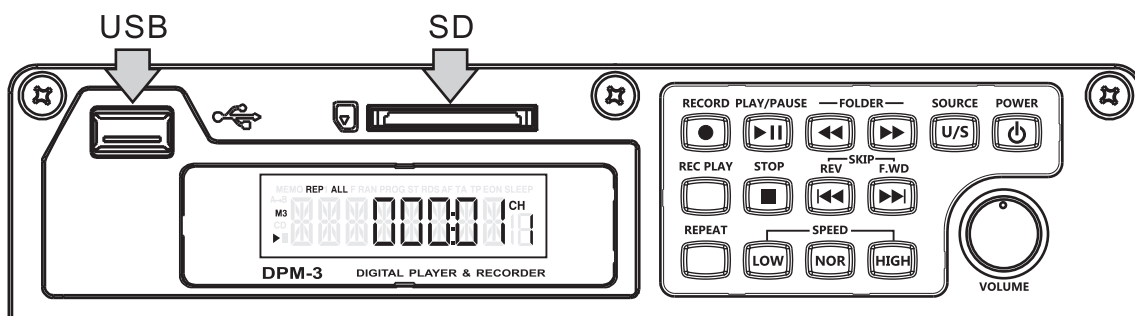

Fig. 16
### (A) Media Slots, Fig. 16:
- (1) USB Disk: Insert USB 2.0 into the USB port for playing MP3 / WMA / FLAC / APE / WAV / M4A / AAC / OGG files.
- (2) SD Card Reader: Insert a SDHC card with gold contacts facing up and label facing down. Press it again to pop out.
- (3) Format USB and SD card before playback. Format standard is FAT.
- (4) Press SOURCE Mode button A8 to select USB or SD card. USB plays first prior to SD card.
- (5) NO DISK displays when it is unable to detect or read a media source.